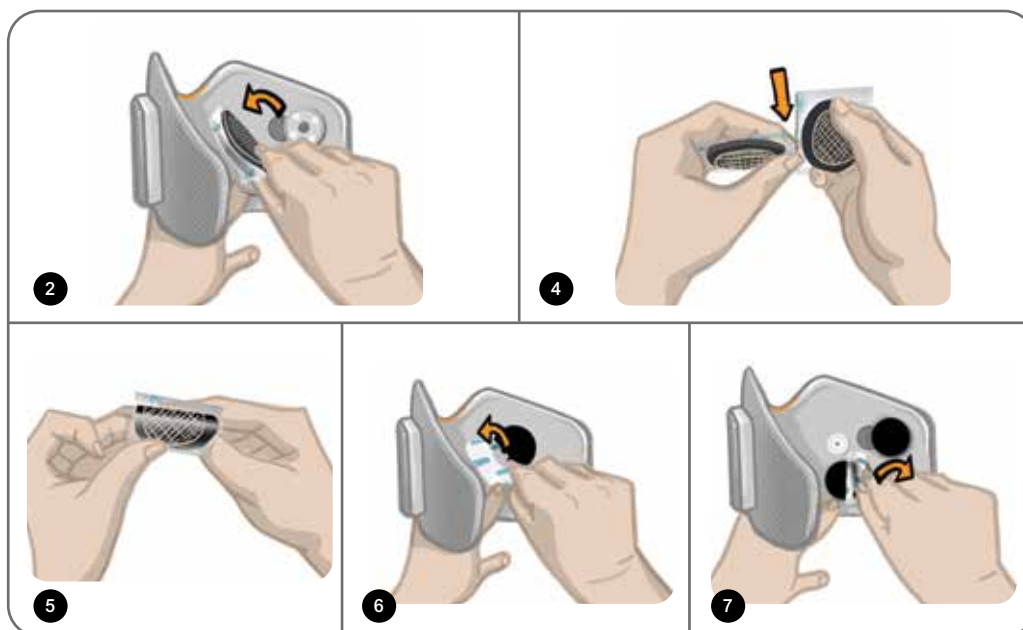

Figure 11-7: Replacing the Hydrogel Electrodes
**To replace the L300 Hydrogel Electrodes: (See Figure 11-7)**